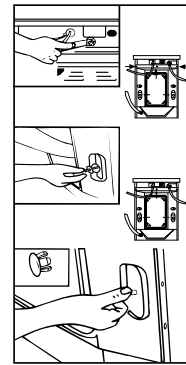

Fig.2
- **Removing the transporting bolts** as shown in Fig. 2.